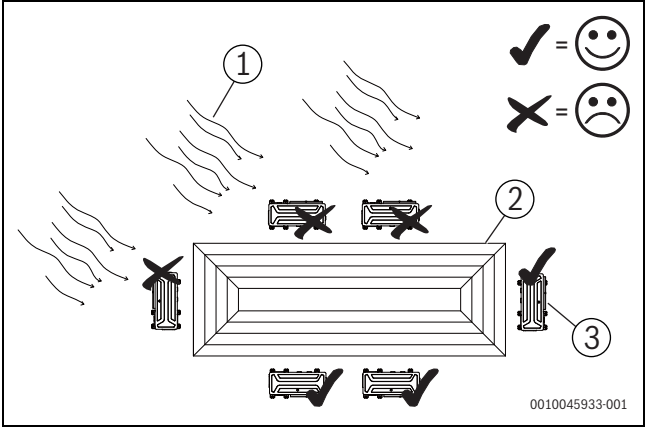

Fig. 46
- ▶ When an outdoor unit is installed in a place that is frequently exposed to strong winds like a coast or on the high story of a building, ensure normal fan operation by using a duct or a wind shield (fig. 46)